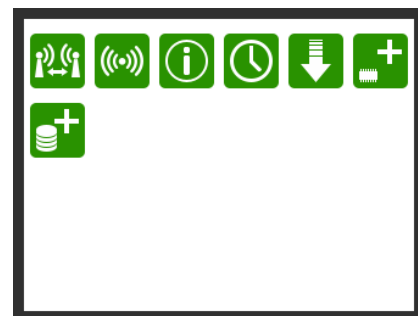

Figure 6-17 Start screen
1. In the screen (Figure 6-17) press